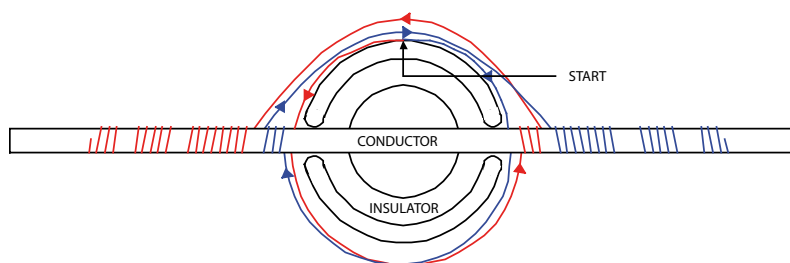

Figure 5
1. Halve the tie. Place centre at start point, (see Figure 5). Take 1½ turns around insulator, passing each tie end under the conductor